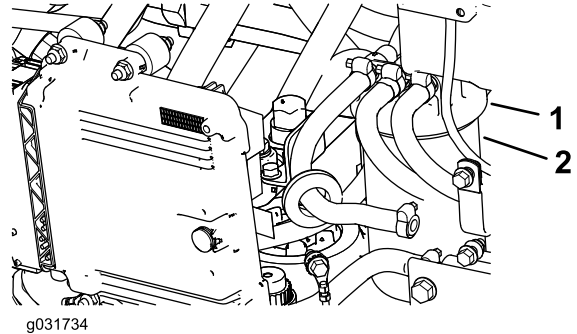

Figure 96
1. Clean the area around the fuel-filter head (Figure 96).
2. Remove the filter and clean the filter-head-mounting surface (Figure 96).